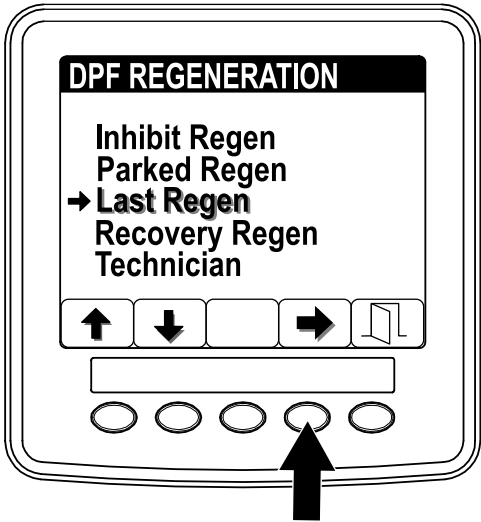

Figure 36
2. Press the button 4 to select the Last Regen entry (Figure 36).
1. Access the DPF Regeneration menu, and press buttons 1 or 2 to scroll to the LAST REGEN option (Figure 36).